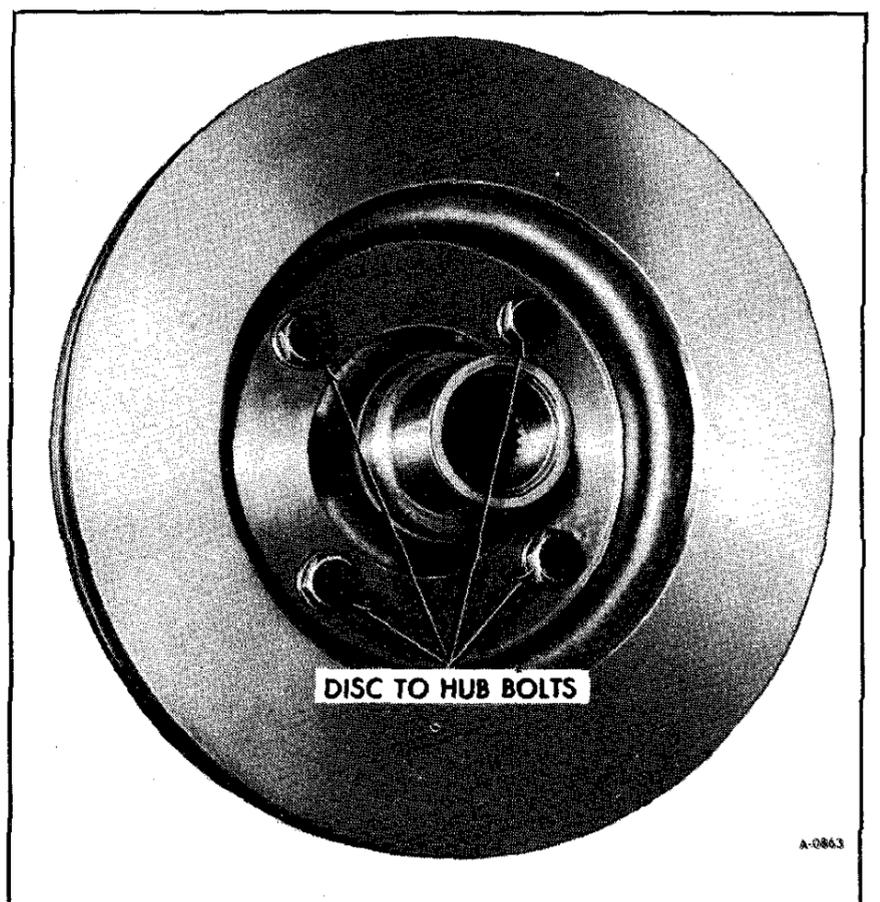

Figure 9—Disc Removal
### REMOVAL (Figure 9)
3. Remove bolts (4) and separate disc from hub as shown in figure 9.